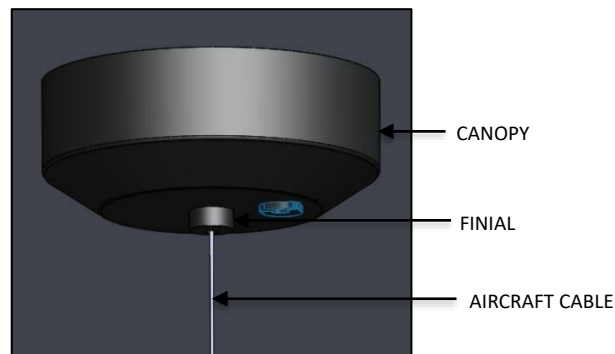

FIG. 10 –CANOPY INSTALLATION
6. Loosely secure CANOPY to the ceiling by threading the FINIAL to the mounting bracket assembly. as shown below in fig. 10.